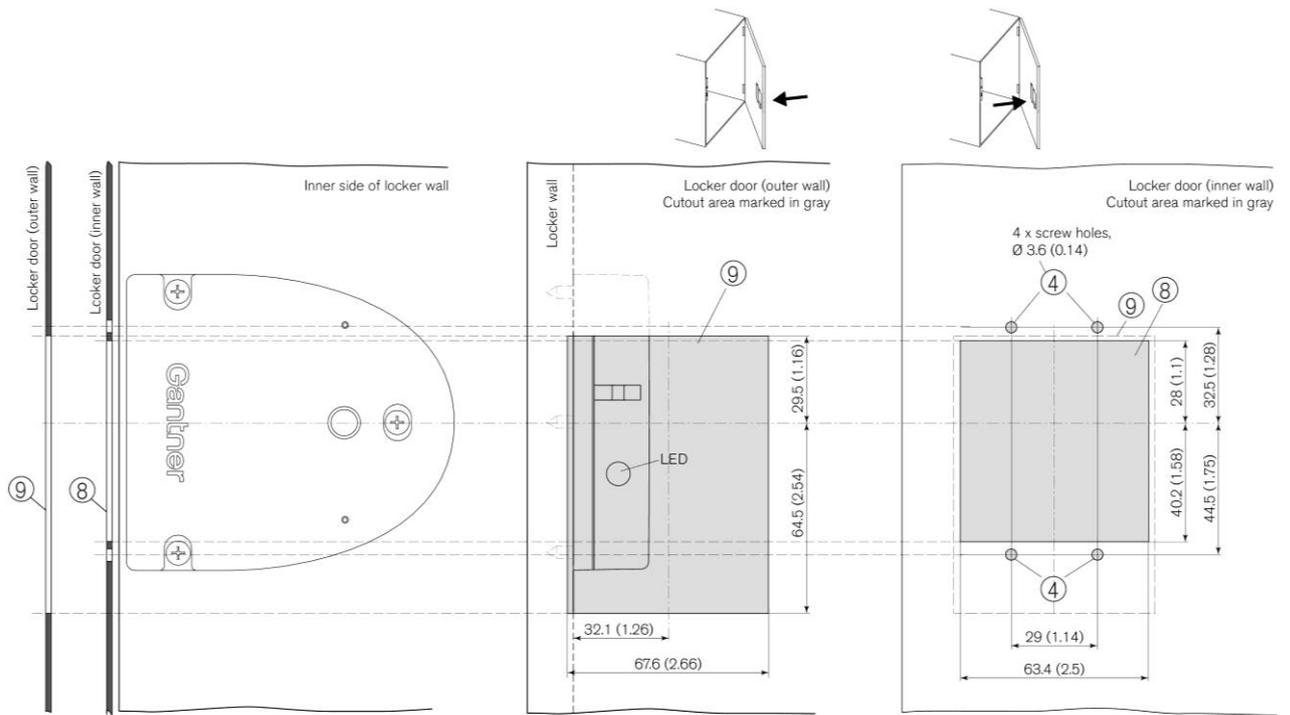

Figure 3.11 - Cutouts for metallic locker doors
- ▶ Cut out a section, 63.4 mm x 68.2 mm (2.5 in x 2.69 in), in the inner wall of the locker door for the GAT NET.Lock Bolt Set 7220 (8 in Figure 3.11).
- ▶ Drill 4 holes (4 in Figure 3.11) in the inner wall of the locker door for mounting the GAT NET.Lock Bolt Set 7220.
- ▶ Cut out a section, 67.6 mm x 94 mm (2.66 in x 3.7 in), in the outer wall of the locker door for the label carrier (9 in Figure 3.11).